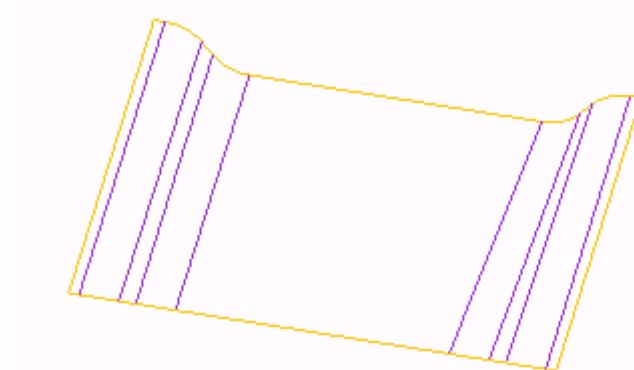
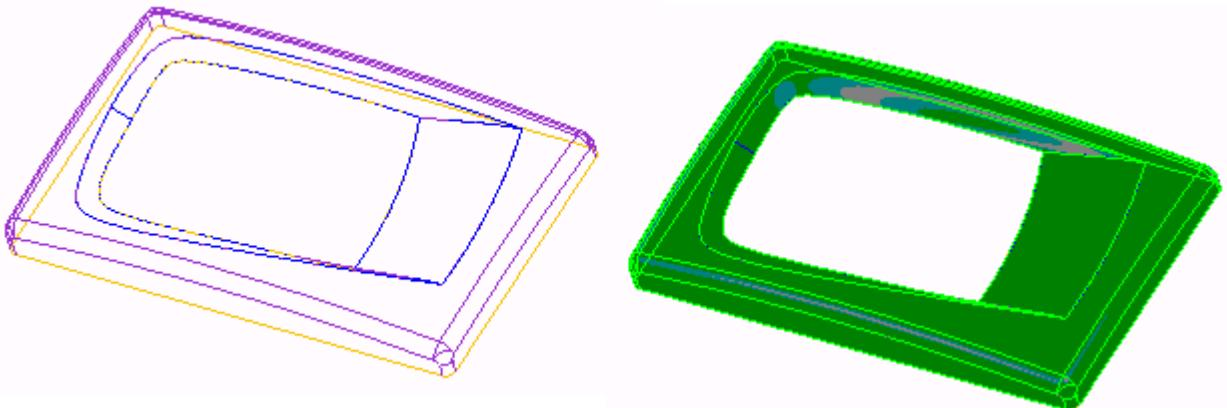

Figure 1 – Viewing a Surface
Figure 2 – Surface Quilt
- Surface – Surfaces are infinitely thin, non-solid features used to aid in the design of highly complex and irregular shapes. Notice that surfaces are shown using orange and purple highlighting on the edges when viewed in wireframe display, as in Figure 1.
- Quilts – A quilt may consist of a single surface or a collection of surfaces. A quilt represents a patchwork of connected surfaces. A multi-surface quilt contains information describing the geometry of all the surfaces that compose it, and information on how these surfaces are joined or intersected, such as the models shown in Figure 1 and Figure 2.
- Surface Patch – If you create a surface feature, which is made of several segments, the surface is created with multiple patches, as in Figure 1.